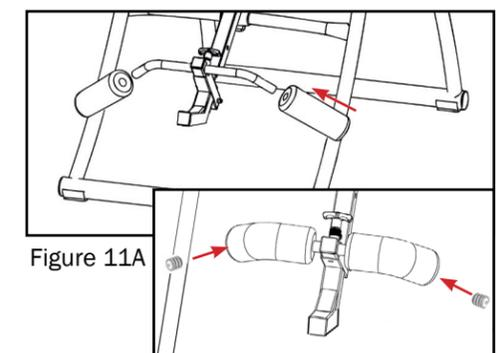

Figure 11A
- Slide the Foam rollers over each side of the Front Ankle Bar (Figure 11A).